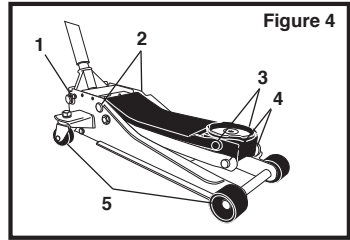

Figure 4
3. Keep jack clean and well lubricated at points illustrated in figure 4.